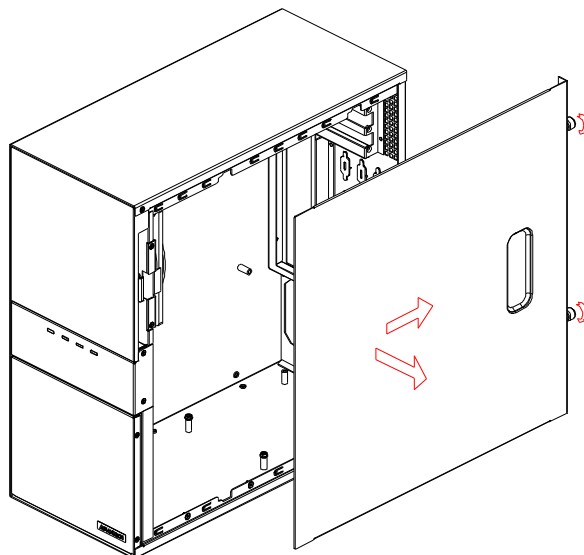

Figure 2.1 Removing the Top Cover/ 移除侧盖 / 移除側蓋
2. Pull the chassis side cover backwards and then pull it out (Figure 2.1).